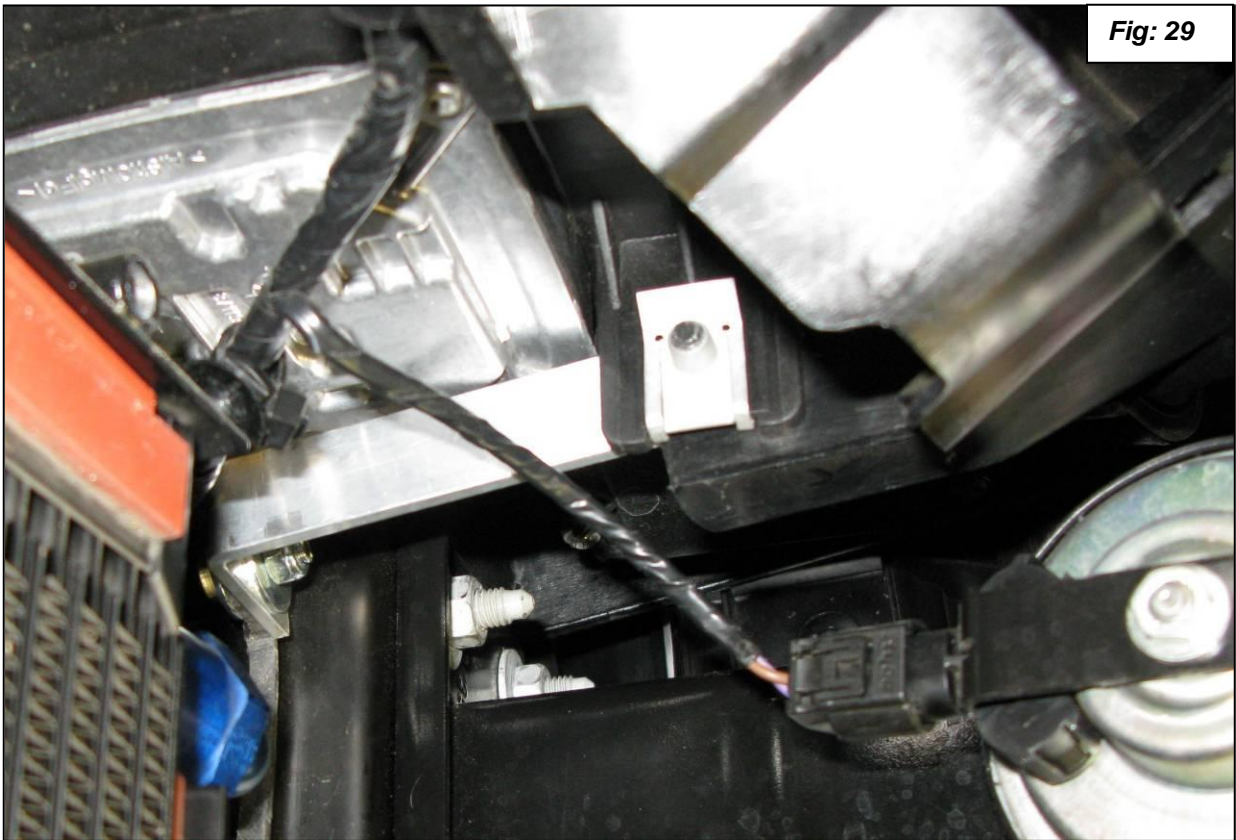

Fig: 29
31. Install the Dinan headlight support bracket in place of the BMW bracket you removed in step 20. It fits between the headlight mount and the upper mount you did not cut off in step 20. Use the stock bolt in front and the supplied bolt, 2 fender washers and lock nut in back. See figures 29 and 30.